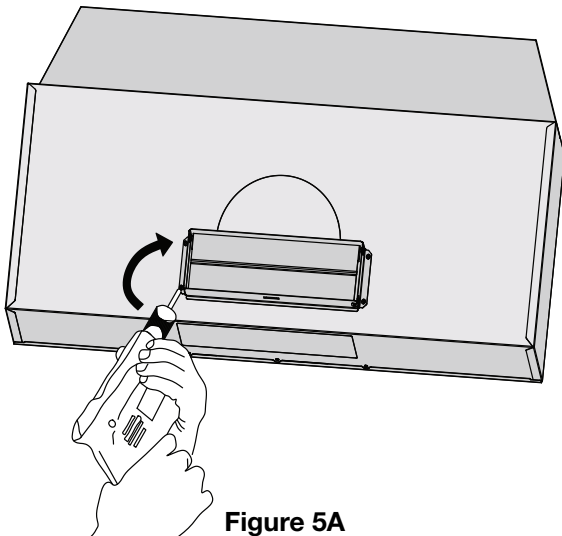

Figure 5A
- Using the supplied screws, attach the rectangular vent/damper on either the top or rear of the range hood (see Figure 5A or 5B).